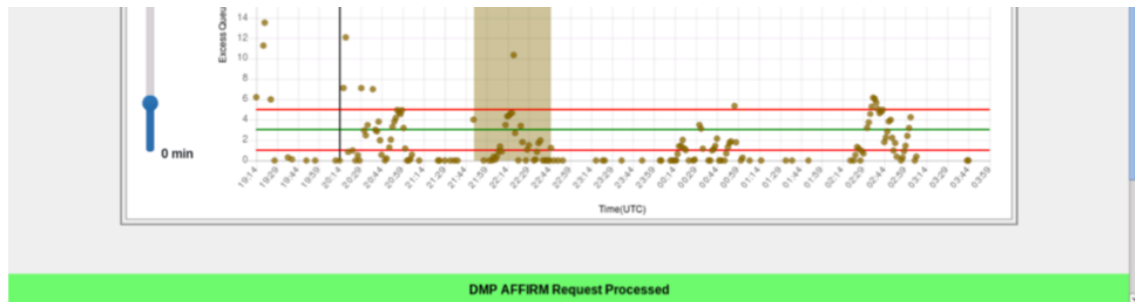

Figure 17. Clicking Checkmark under Action caused acknowledgement message to appear at bottom of window.
Step 4: A highlighted message appears at the bottom of the window stating that the SMP was affirmed, as shown in Figure 17.